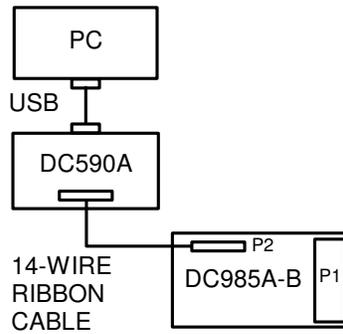
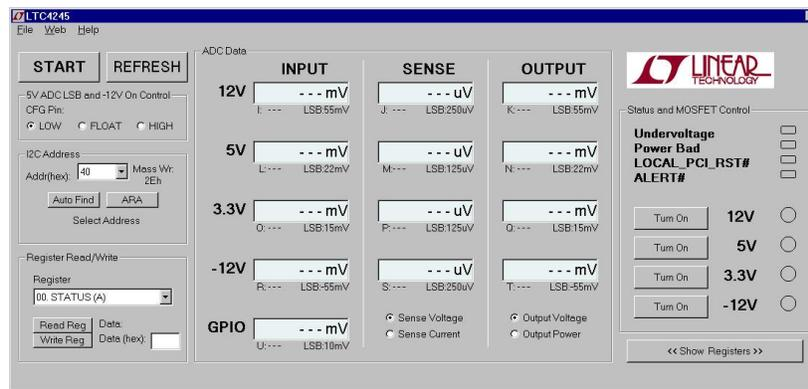

Figure 2. QuickEval Setup
Figure 3. Default LTC4245 QuickEval Interface
- Connect DC590 to the PC with a USB cable as shown in Figure 2. Connect the backplane board I2C port, P2, to the DC590 USB controller board using the supplied 14-conductor ribbon cable. Upon connection, QuickEval will identify the DC985, and open the LTC4245 interface software window as shown in Figure 3.
Communicating with the LTC4245 I2C interface requires the QuickEval System software and a DC590 board. The QuickEval software is available from the website [www.linear.com/software](http://www.linear.com/software). The QuickEval software talks to the DC590 board through the USB port of the PC. The DC590 is connected to the I2C port (P2) on the DC985A-B with the supplied 14-wire ribbon cable (Figure 2). When connected, the QuickEval software identifies the DC985 and brings up the LTC4245 interface as shown in Figure 3. When experiencing problems with the software, try unplugging and plugging the DC590 board from the PC. Also refer the DC590 Quick Start guide.